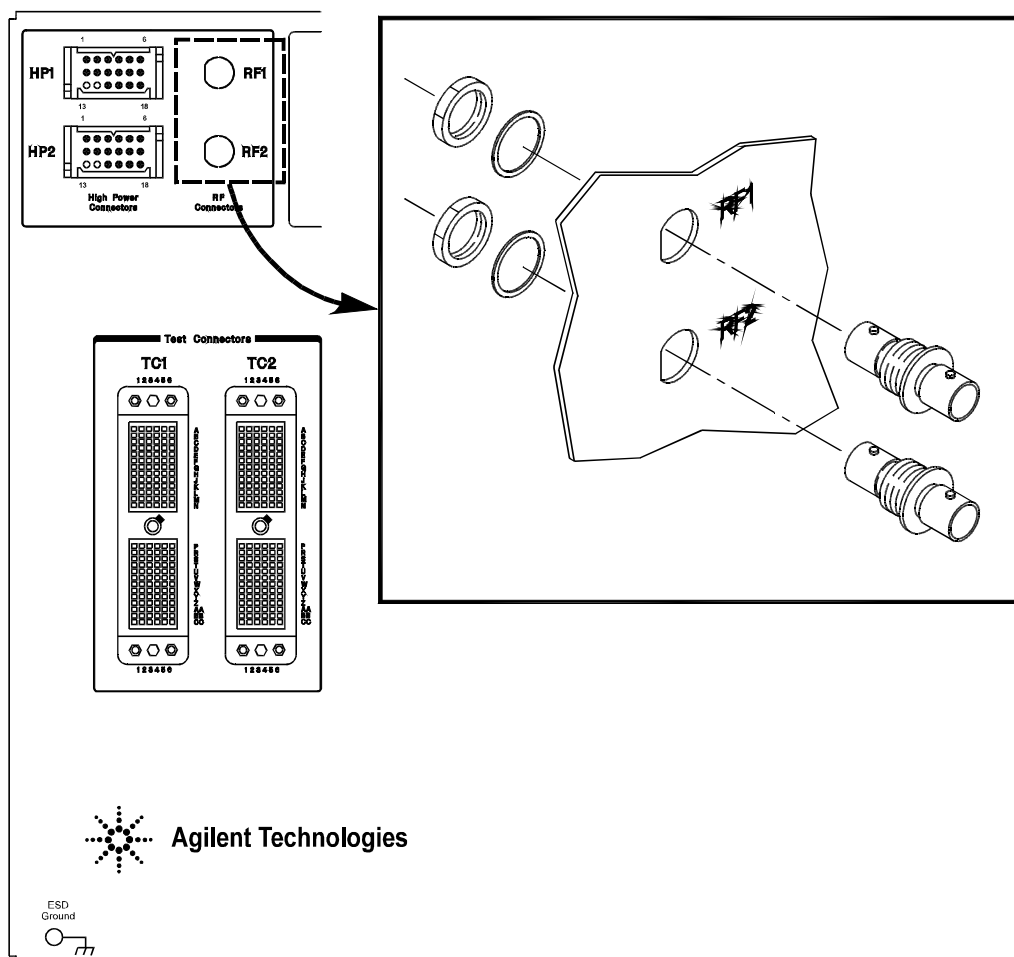

Figure 2-17. Installing BNC Connectors (2 of 8 RF Connectors Shown)
3. Mount the floating BNC connector(s) on the Test System Interface as shown in Figure 2-17.